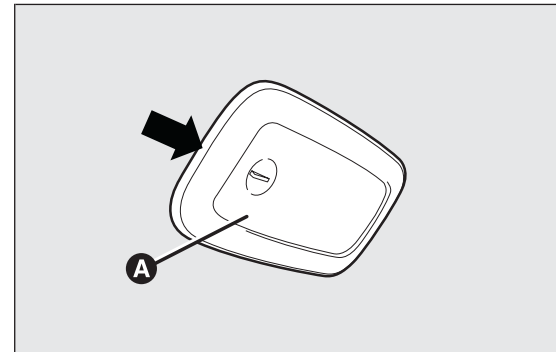

fig. 176
- operate in the point shown by the arrow and remove roof light A fig. 176;